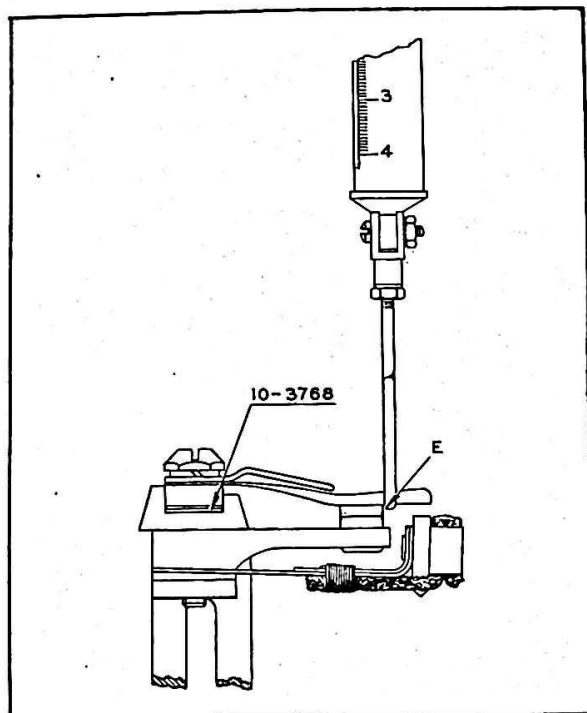

Figure 9 - Checking Breaker Main Spring Tension.
(1) Check the main spring tension with gage No. 11-1864. When making this check make sure that the hook of the gage is applied under the main spring adjacent to the contact point "E" as shown in figure 9. The tension is read at the instant the contact points separate. If the tension of a main spring that has been operated is 15 ounces or more, it is satisfactory for further service. If it is necessary to install a new main spring its tension should be from 20 to 32 ounces. The No. 10-3768 shims are used primarily to line up the contact points squarely to obtain maximum contact surface between the points. The number of No. 10-3768 shims used also affects the main spring tension. Main spring tension is decreased by the addition of No. 10-3768 shims and increased by removal of shims.
(2) Examine the contact points. If the wear seems to be excessive or if the surfaces are rough or pitted, the contact points should be cleaned and polished. To accomplish this, use the contact point dressing kit No. 11-1248.